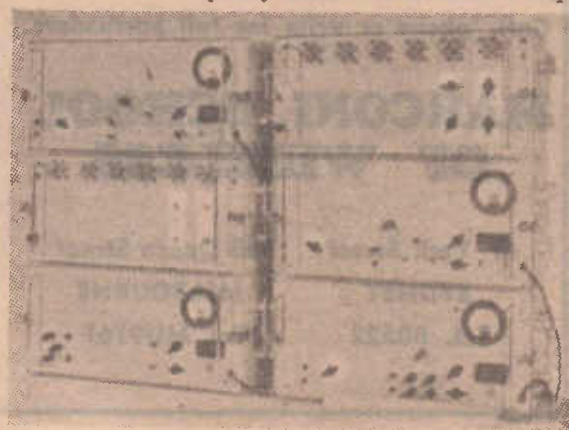

Fig. 3—Portable Television repeater-equalizer for telephone cables.
The two main effects produced by such lines are (1) attenuation of the higher frequencies and (2) the introduction of some phase distortion. Both of these have been overcome by the use of specially designed portable repeater-equalisers (Fig. 3) inserted every 1½ miles (about 2.5 k.m.) in the telephone lines. With the aid of these, up to 8 miles (about 13 km) of ordinary telephone lines are now regularly used for outside broadcasts from theatres, sports grounds and so on—a very notable advance in the technique of television transmissions.